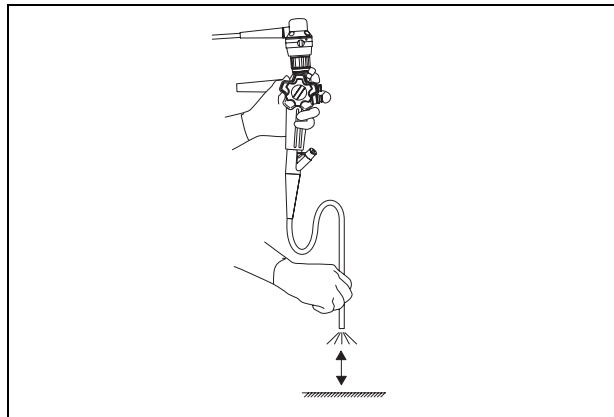

Figure 4.11
2. Point the distal end of the endoscope at a suitable object and vary the distance between 5 and 60 mm (see Figure 4.11). Confirm that the light being emitted from the distal end varies with the distance.